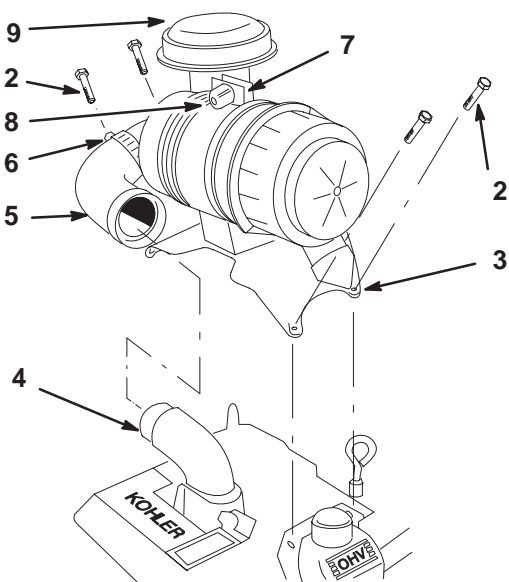

Figure 7
1. Remove air cleaner from crate. Keep air cleaner and bracket together. (Fig. 7).
2. Remove the top two valve cover mounting screws from both valve covers (Fig. 7).
3. Place air cleaner onto engine and align holes in air cleaner bracket with holes in valve covers (Fig. 7).
4. Install valve cover screws into air cleaner bracket and valve covers (Fig. 7).
5. Remove plastic plugs from air intake elbow on engine and air cleaner hose (Fig. 7).
6. Install hose to air intake elbow on engine and air cleaner. Tighten hose clamps to secure the hose connections (Fig. 7).
7. With the air intake cap pointing upward, tighten the tensioning bolt until the clamp ends are a 1/2 inch (13 mm) apart (Fig. 7).